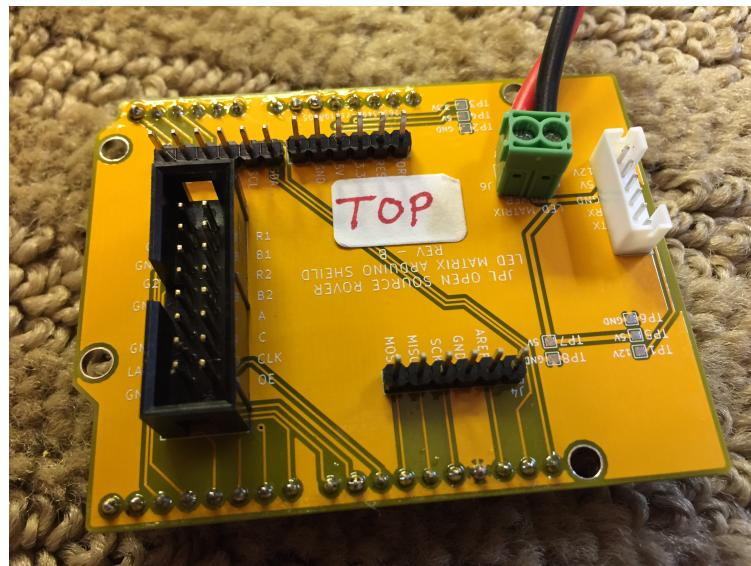

Figure 17: Assembled Arduino Sheild
Now, we will assemble the Arduino shield that will sit in the rover's head and control the face. We will start with the **TOP** side of the Arduino board. The final product is shown in Figure 17.
1. Begin by taking the 2-position terminal block **E18** and soldering it to top of the board at the J6 connector, such that the screw terminals face outwards as shown in Figure 17:
2. Solder the 1x6 JST connector **E14** onto the top of the board at the J5 connector such that the notch in the connector faces **OUTWARDS** as shown in Figure 17:
- Solder the 2x8 shrouded header pin connector **E19** to the top of the board at connector J1 such that the notch faces **OUTWARDS** as shown in Figure 17.